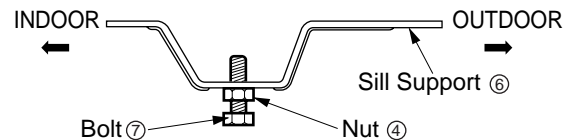

Fig. 3
3. Loosely assemble the Sill Support⑥ using the parts . (Fig. 3)